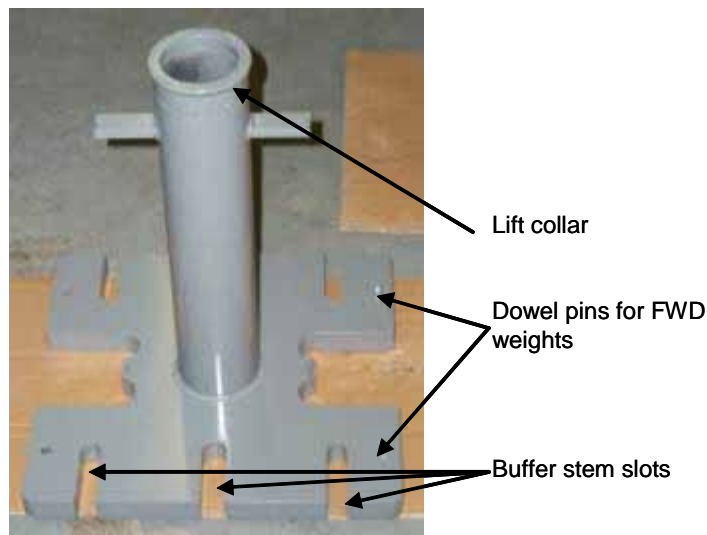

Figure 33. Drop weight assembly.
1. Replace the lift collar semiannually. Unscrew the collar and replace, but *do not* apply thread locker. Use the setscrew to secure the lift collar. Rotate the upper catch daily to ensure equal wear on the collar (figure 33).